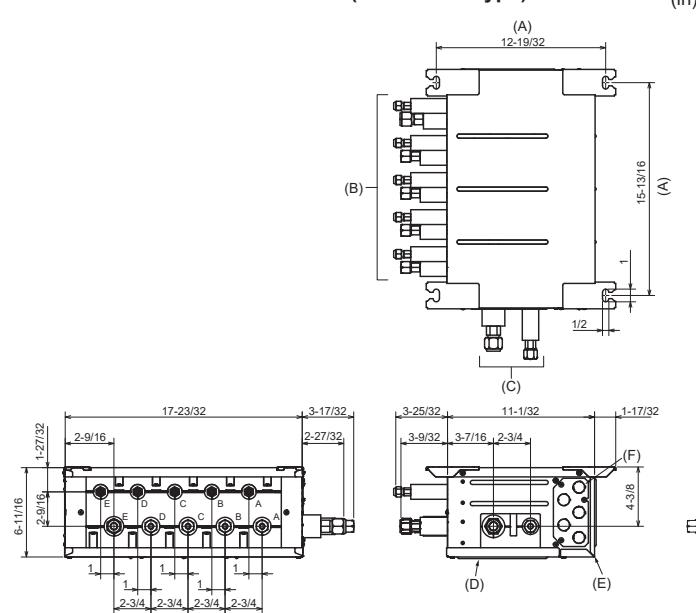

Fig. 4-3
■ PAC-LMA50BC/PAC-LMC50BC (Fig. 4-3)
- 1) Install the suspension bolts (procure locally) at the specified pitch (Fig. 4-3, 4-4).